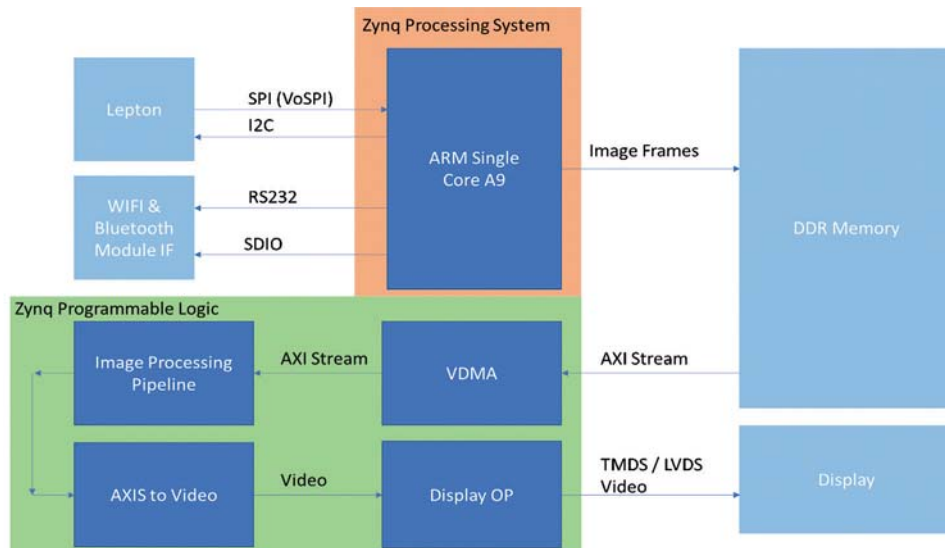

Figure 2: The solution's high-level architecture
To create a tightly-integrated solution, designers can use the processing system (PS) of the All Programmable Zynq SoC to configure the Lepton via the I2C bus. The PS can also provide an interface to the radio module for WiFi and Bluetooth communication for future upgrades, while the programmable logic is used to receive VoSPI, perform direct memory access with DDR and produce video. See the high-level architecture of the solution in Figure 2.